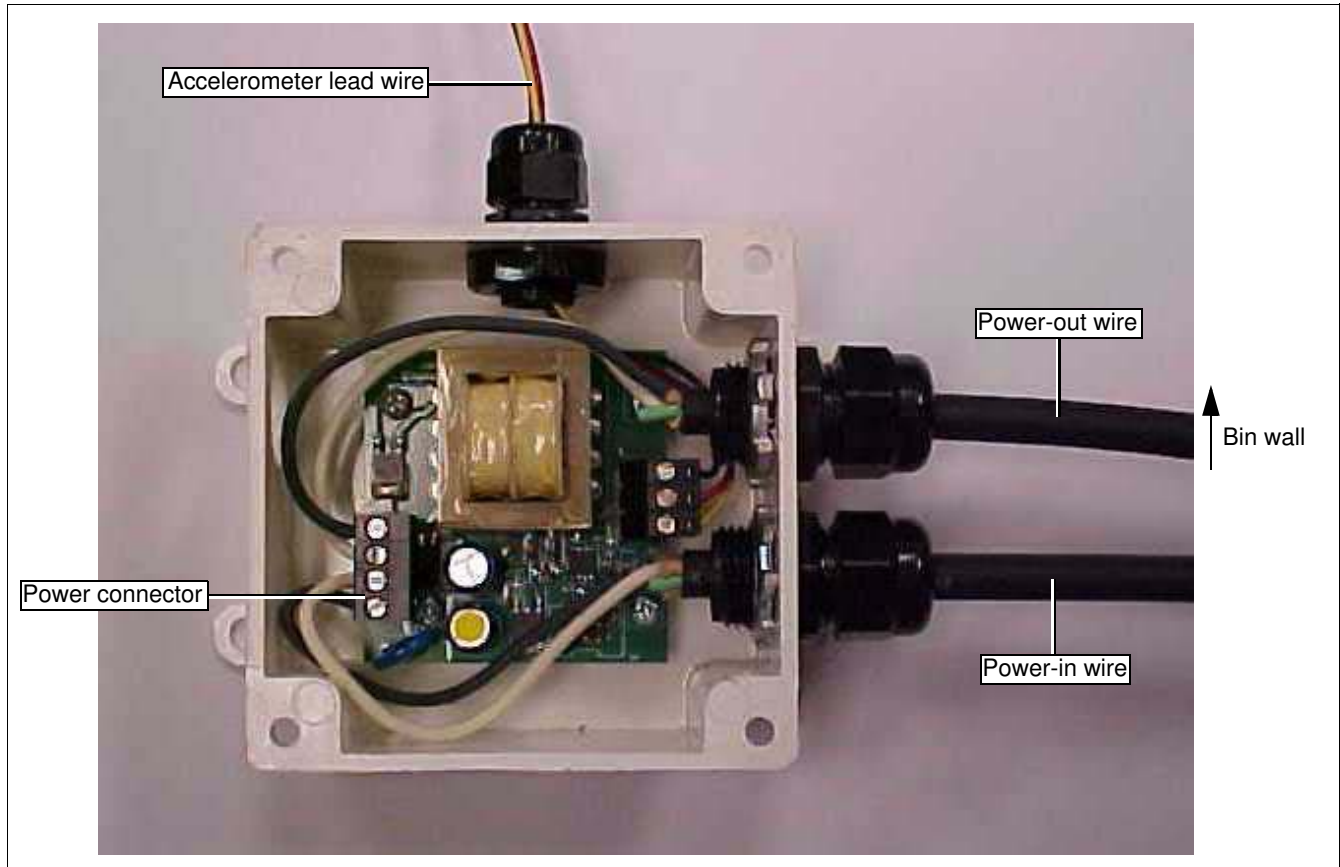

Figure 4 *Electronic Controller Enclosure Assembly Power Wire Routing*
- b. Install two (2) cable connectors, part #1EL0425, into the bin wall side of the fuse holder electrical box. Install one of these in place of the grommet through which the mercury tilt switch lead wires previously passed.
- c. Using the cable connectors just installed, route two (2) of wire (18/3), part #106E101, from the fuse holder box to the electronic controller enclosure assembly.
- d. Connect the black and white wires of one of the 18/3 wires to the black and white wires from the track drive power cord. (**NOTE:** The green wire in this 18/3 wire will not be used.) Leave the green wire of the track drive power cord connected to the track drive motor cord. Route the other end of this 18/3 wire through the right hand inner (bin center side) cable connector on the electronic controller enclosure assembly and connect the black and white wires to the power connector (4 terminal) on left hand side of the printed circuit board. Connect the black wire to the innermost (farthest from bin wall) terminal and connect the white wire to the inside terminal next to the black wire. (See Figure 4 on Page 4.) **NOTE:** The top portion of the 4 terminal power connector pulls OFF for access.
- e. Connect the other 18/3 wire to the fuse holders input lead wires. (Where the track drive power cord and mercury tilt switch wires were previously connected.) Route the other end of this 18/3 wire through the right hand outer (bin center side) cable connector on the electronic controller enclosure assembly and connect the black and white wires to the power connector (4 terminal) on left hand side of the printed circuit board. Connect the black wire to the outermost (nearest bin wall) terminal and connect the white wire to the inside terminal next to the black wire. *(See Figure 4.)* **NOTE:** Both white wires of the power-in and power-out 18/3 wires should be side by side.
- a. The 460 volt 3 phase, 575 volt 3 phase, and 380 volt 3 phase units all include a transformer to step the voltage down to 230 volt for the track drive motor. On these units, the Solid State Electronic Tilt Switch must be wired on the 230 volt output side of the transformer. If the transformer on the unit being retrofit is not wired with the mercury tilt switch on the 230 volt output side of the transformer, it must be rewired. Route the track drive power cord directly to the transformer. Wire the transformer according to the appropriate Wiring Diagrams on Pages 6-10 for the unit primary voltage. Route the 230 volt output power cord from the transformer back to the fuse holder box. The Solid State Electronic Tilt Switch can now be installed and wired according to the Step 5 on Page 3 for 230 volt units. The two (2) cable connectors, part #1EL0425, should be installed into the top of the fuse holder electrical box. The grommet through which the mercury tilt switch lead wires previously passed will not be used and should be plugged.